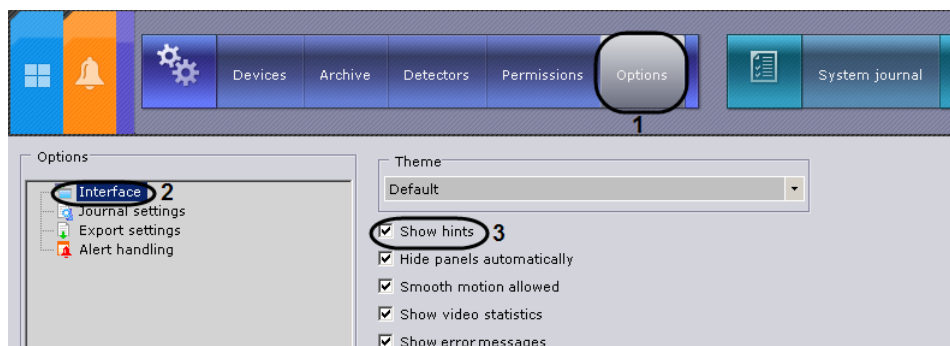

Fig. 6.6—3 Configuring hints
1. Go to **System settings**⇒**Options**⇒**Interface** (Fig. 6.6—3, 1-2).
2. Deselect the **Show hints** checkbox (see Fig. 6.6—3, 3).